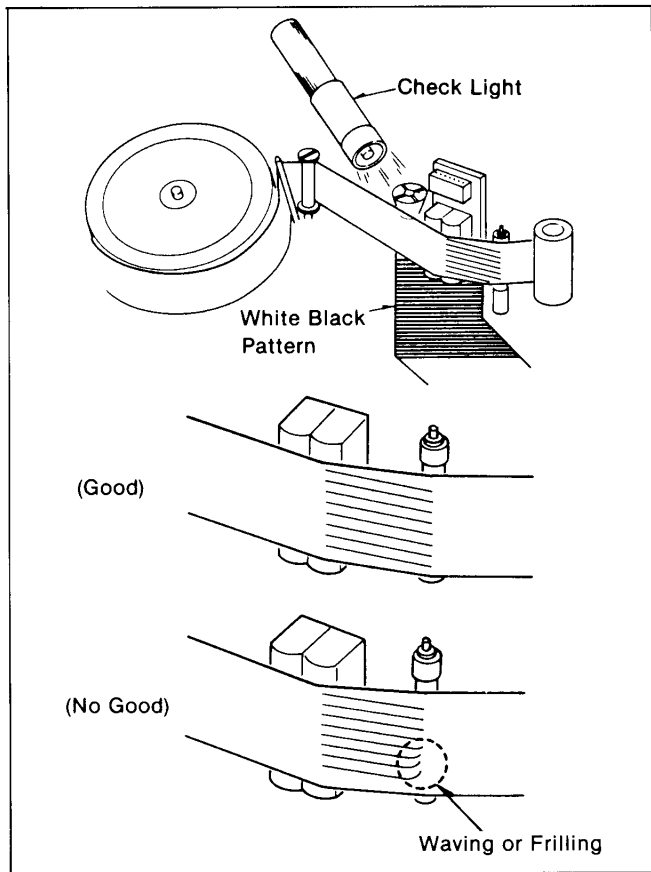
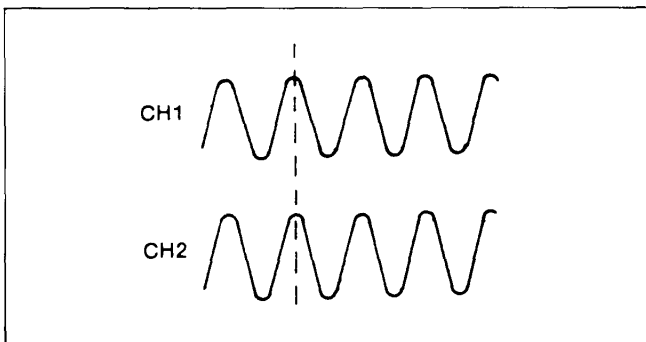

Figure M12
Figure M15
*There is easy method to check Waving or Frilling. If there is Waving or Frilling in the lower edge, the white black pattern which is reflected on the tape will curve or not linear as shown in Figure M12.*
*There is easy method to check Waving or Frilling. If there is Waving or Frilling in the lower edge, White Black pattern which is reflected on the tape will curve or not linear. (Figure M12)*
2. Turn the screw (B) to counter-clockwise until waving or frilling do not appear in the lower edge of P4 post.
5. Adjust the screw (C) so that these phases of both channels match as shown in Figure M15.
9. Tighten the Lock screw (D) so that these phases of both channels match as shown in Figure M15.